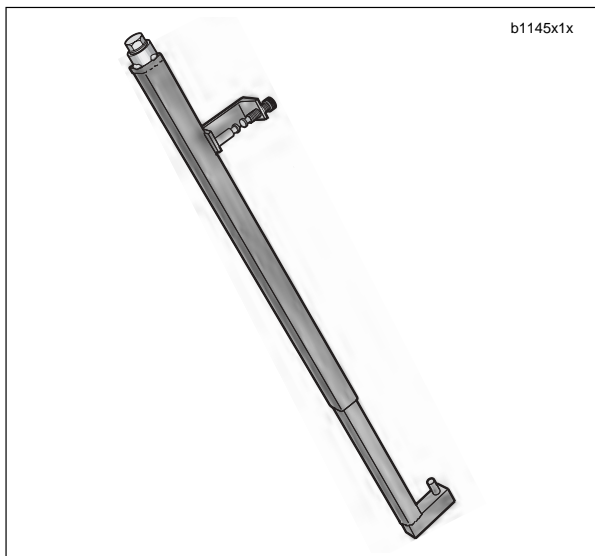

Figure 2-67. Fork Spring Compressing Tool (HD-45966)
- See Figure 2-67. Move the fork assembly from the holding tool and compress fork in the FORK SPRING COMPRESSION TOOL.
- Remove preload washer (4) and slider piston (5).
- See Figure 2-67. Expand fork and remove from FORK SPRING COMPRESSION TOOL.